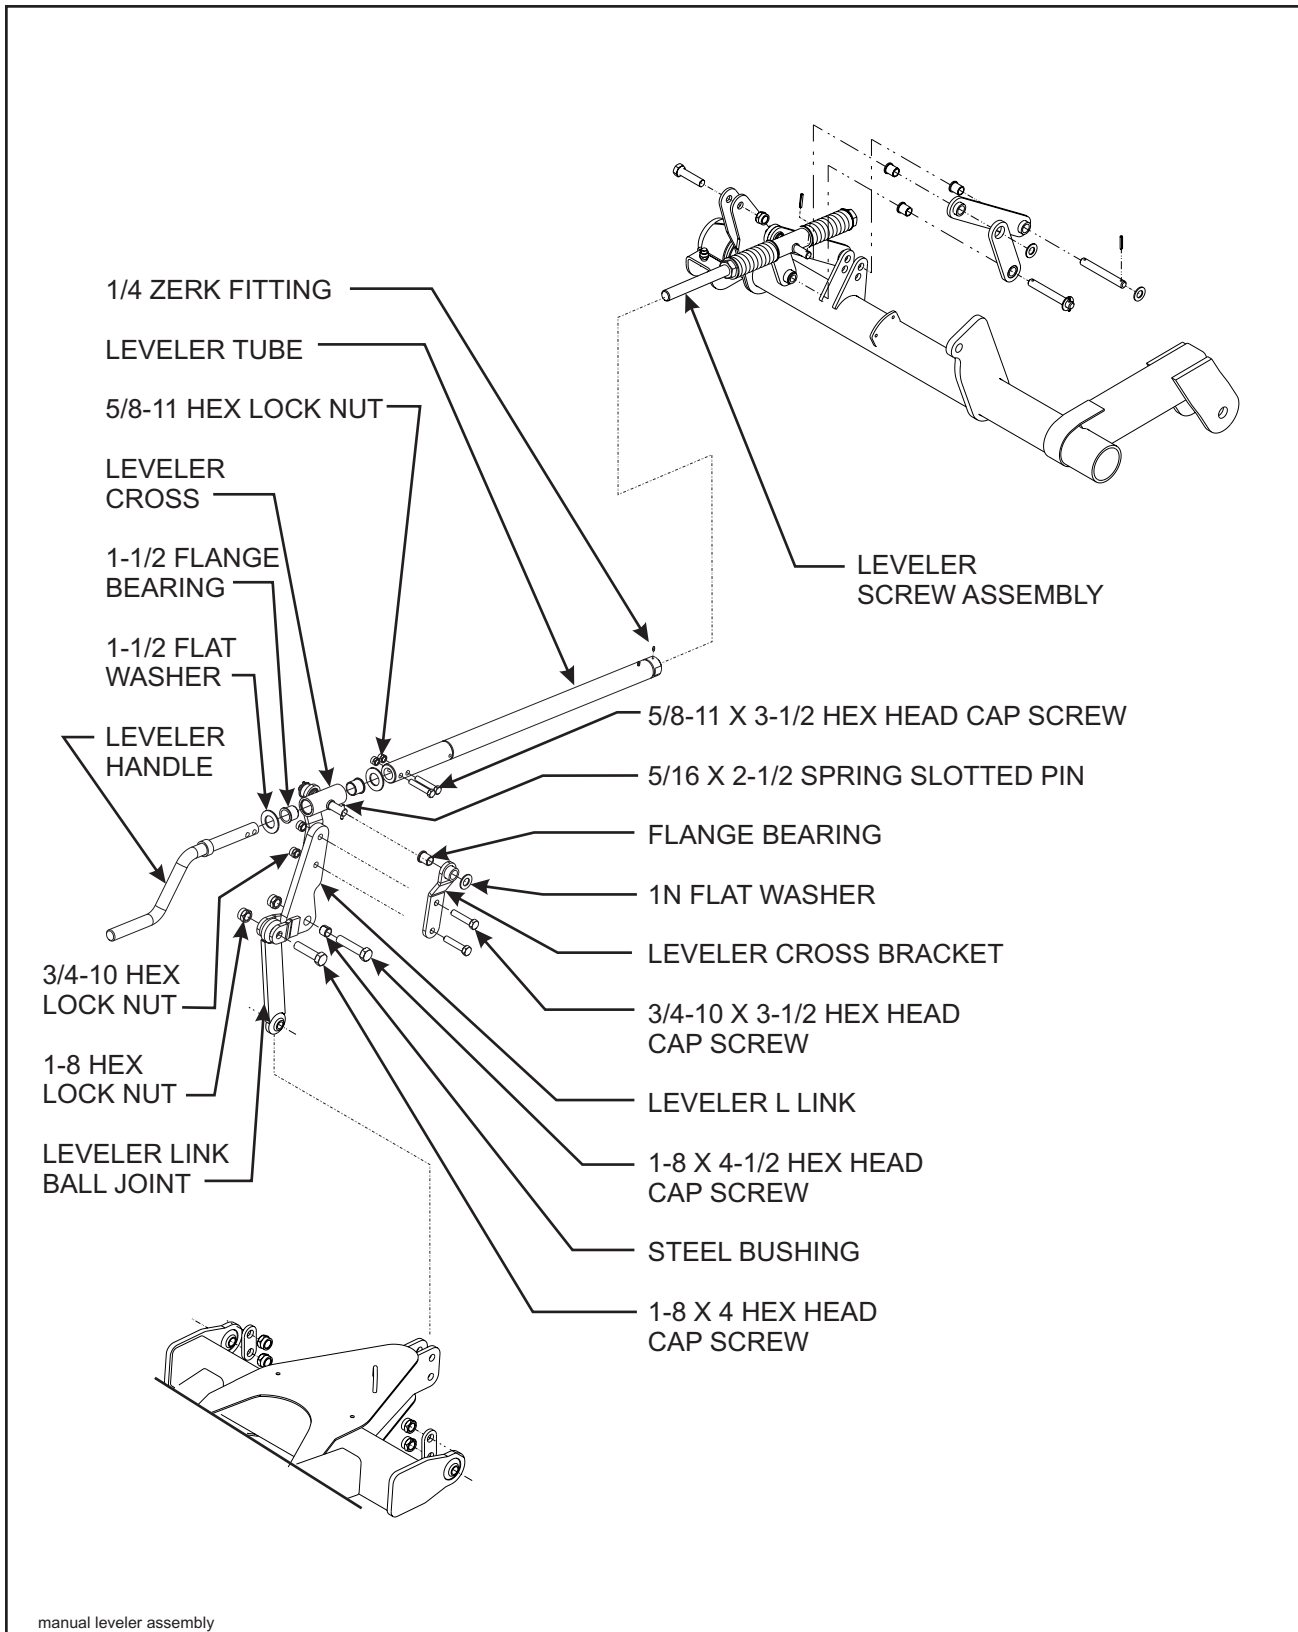

Figure 3-3 Manual Leveler Installation
- 3-3.1** Using the manual leveler, screw the leveler tube onto the leveler screw assembly (See Figure 3-3). Initially leave approximately 3" of threads visible, further adjustment may be required. Rotate the tube so that the zerk hole in the threaded end is pointing upward.